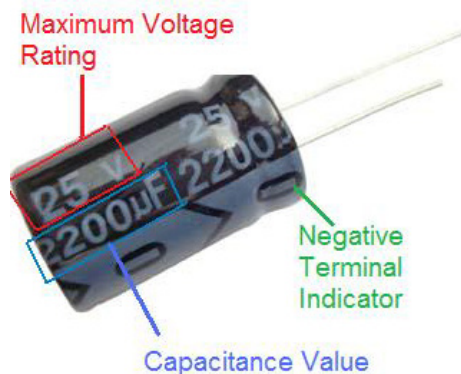

Figure 2: An electrolytic capacitor with '–' markings identifying the negative pin.
2. Spend some time to take note of the polarities of the 2200 μF electrolytic capacitor. There are '–' markings indicating which pin is the **negative** terminal (see Figure 2).